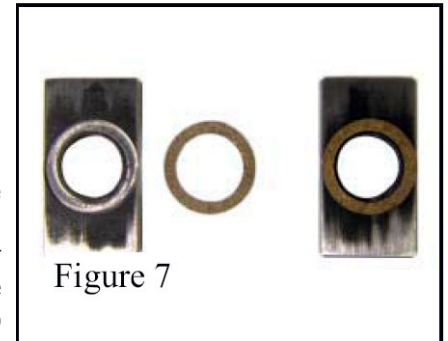

Figure 7
7. Using a press or vise, gently compress the friction rings into the machined grooves on each outer face of the TCS case halves. Use care to assure each is positioned correctly before installation or damage to the friction rings will occur. See figure 7.